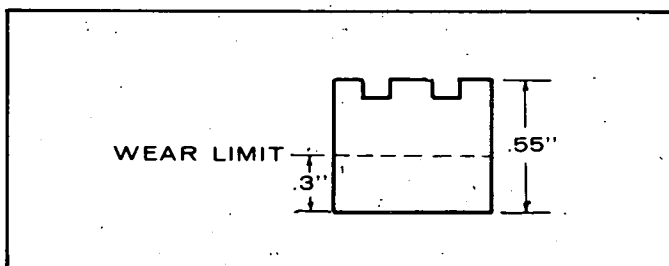

FIGURE 40. BRUSH WEAR LIMIT.
8. **Inspection of Brushes.** Replace brushes when they are worn less than .3" as shown in Figure 40. See that all brushes move freely in their holders.